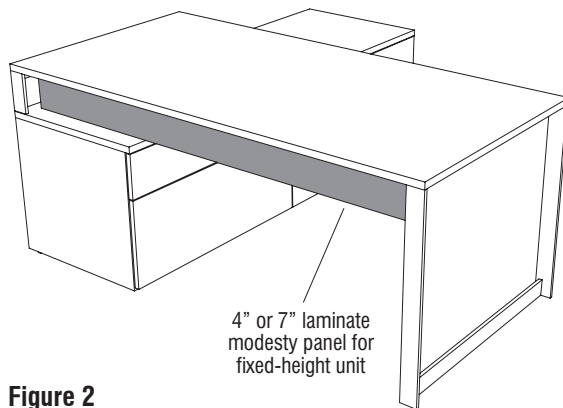

Figure 2
4. Align the mounting holes of the brackets with the marked locations at the underside of the worksurface. Secure the brackets to the worksurface using three #10 x $\frac{5}{8}$ " Phillips pan head screws per bracket (Figure 2).